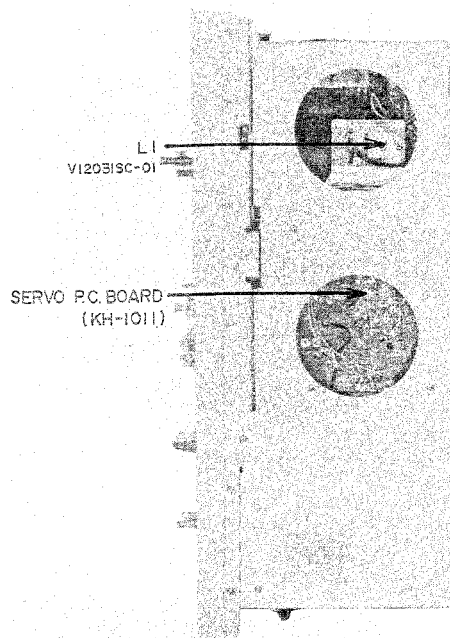

Fig. 8
- 3) Adjust the core of Coil L1 (V1203ISC-01) shown in Fig. 8 to obtain a Frequency Counter indication of 500 Hz  $\pm 1\%$ .